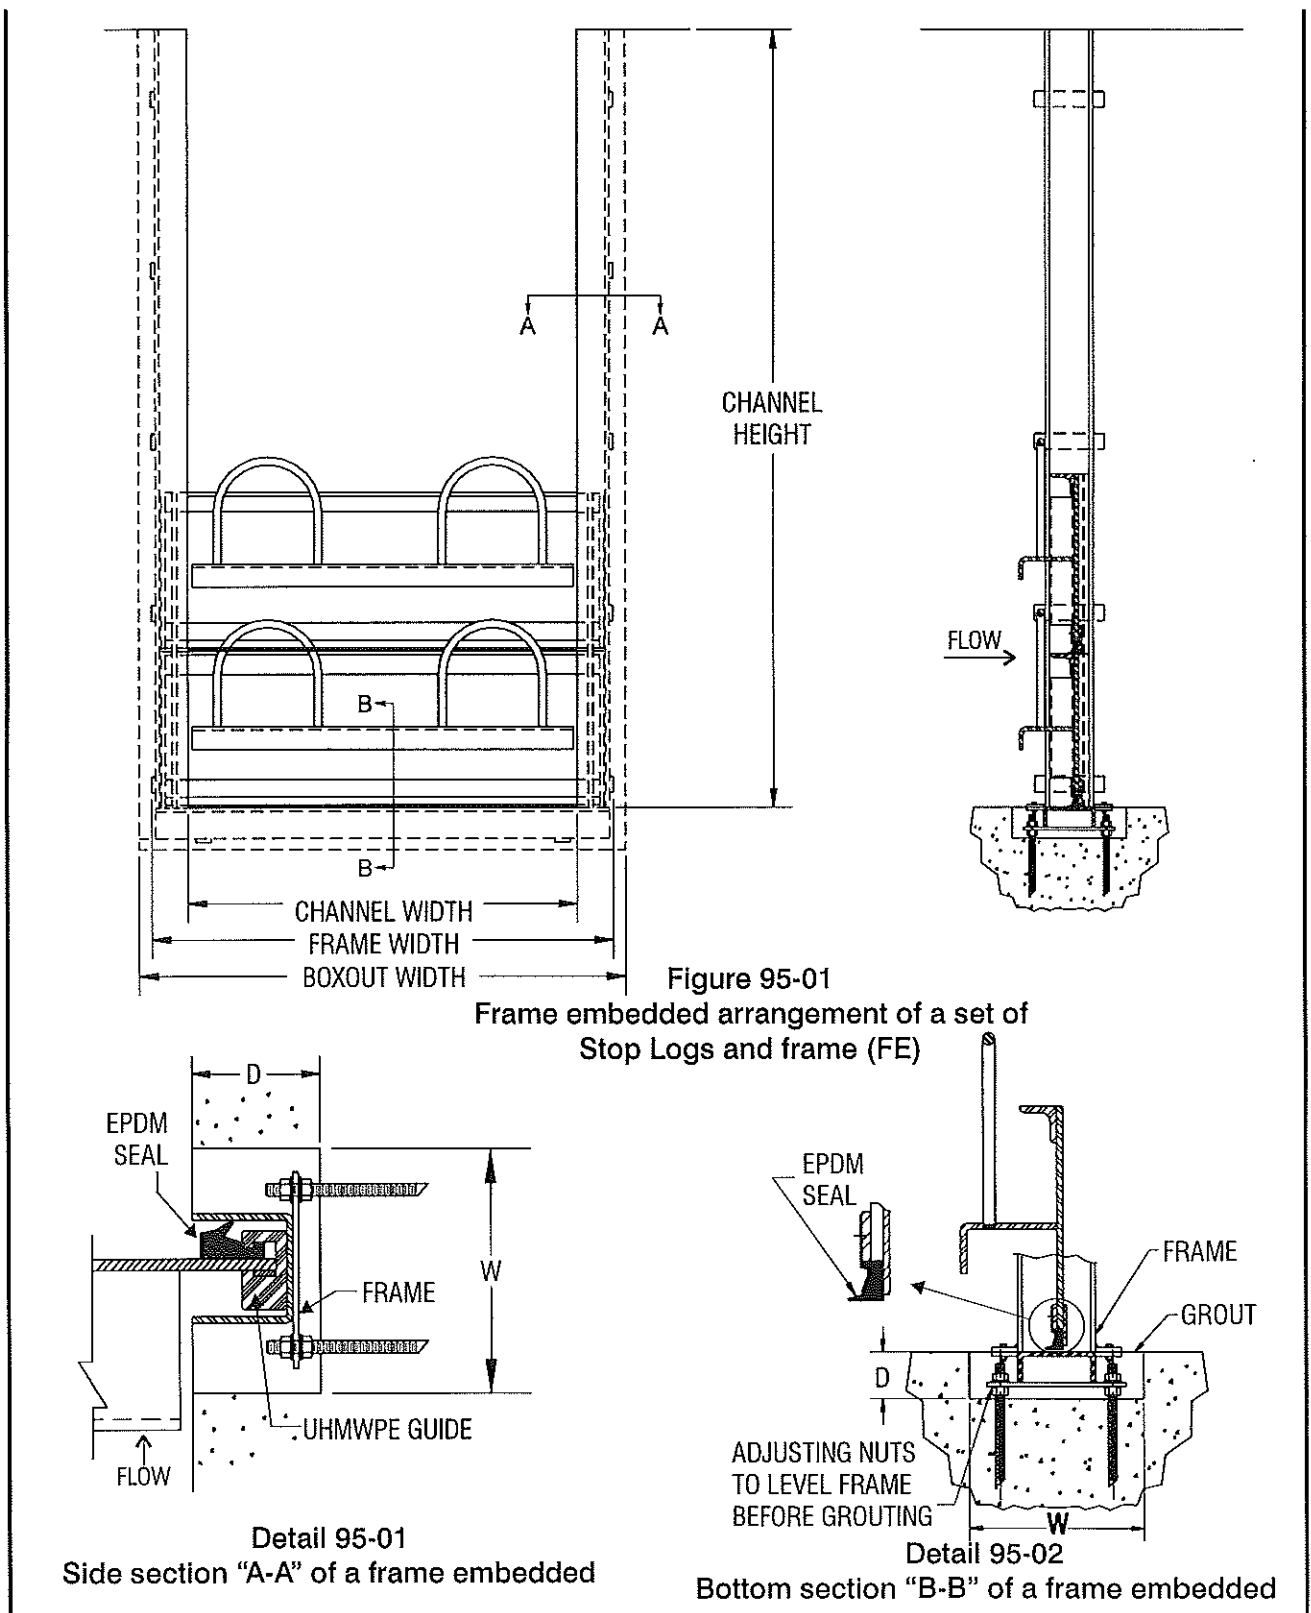

Figure 95-01
The stainless steel frame on the SERIES 95 is a stainless steel channel designed to be embedded in a channel (FE) (Figure 95-01) or to be anchored on the surface of an existing channel (EC) (Figure 95-02). The sill can be flush bottom or located on the surface of the channel. The frame can also be mounted on a concrete wall (CW) (Figure 95-03).